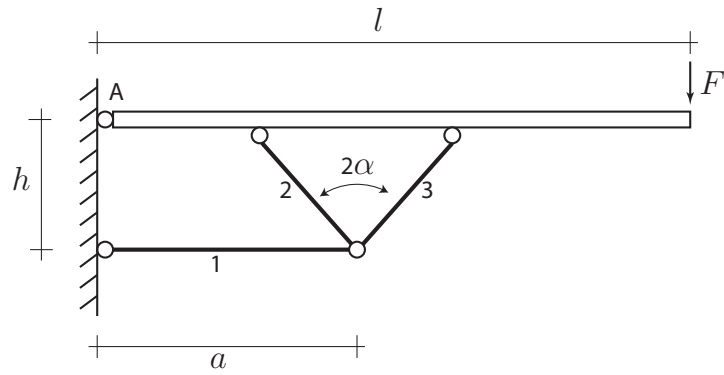

Figure 15: Problem 15.
15. For the structure in Fig. 15 determine the support reactions at A and the forces in bars 1, 2, and 3.